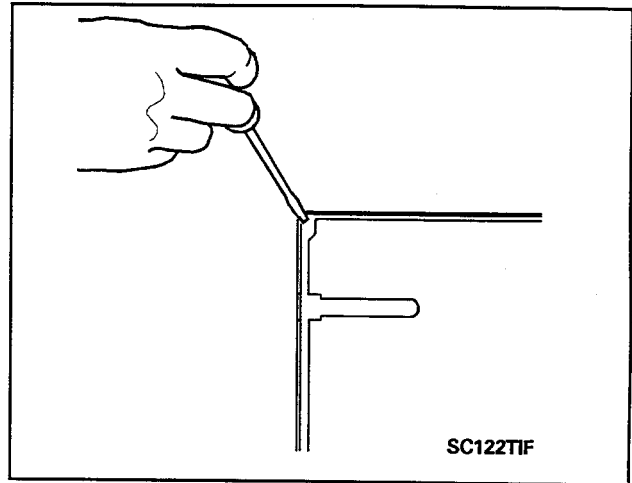

**Figure 3-9**
3. Exert pressure so as to separate the "v" groove from the "v" slot at the corner, see *figure 3-9*.